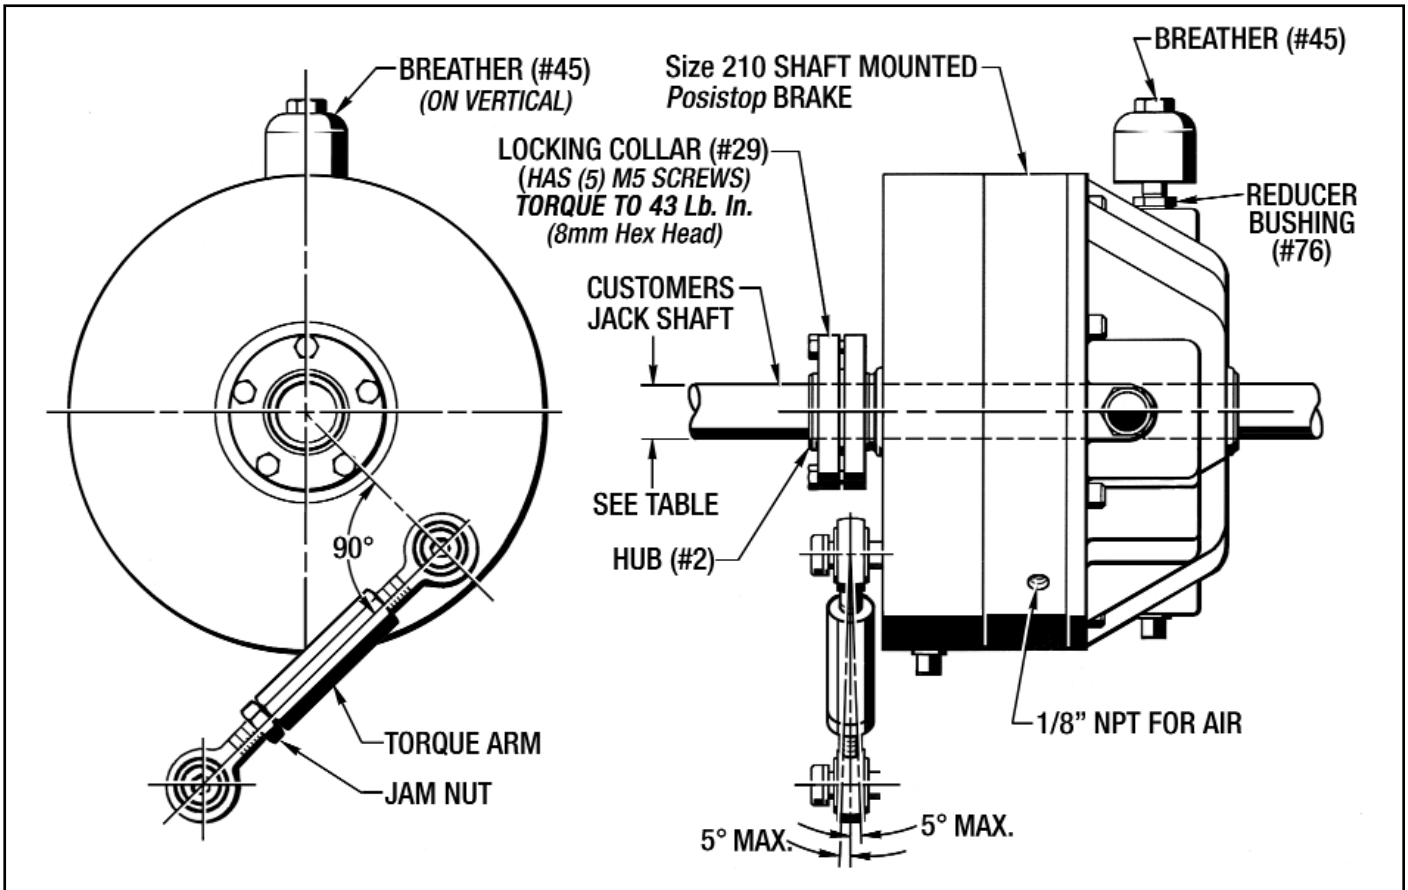

Figure 2 - Size 210 Shaft Mounted Brake Installation
(See Figure 2)
7. Attach the Torque Arm as shown in Figure 2. Adjust the turnbuckle so the Air Breather (#45) is on the vertical center line.
**Please Note:** The maximum allowable angular misalignment is  $\pm 5^\circ$  as shown in Figure 2.